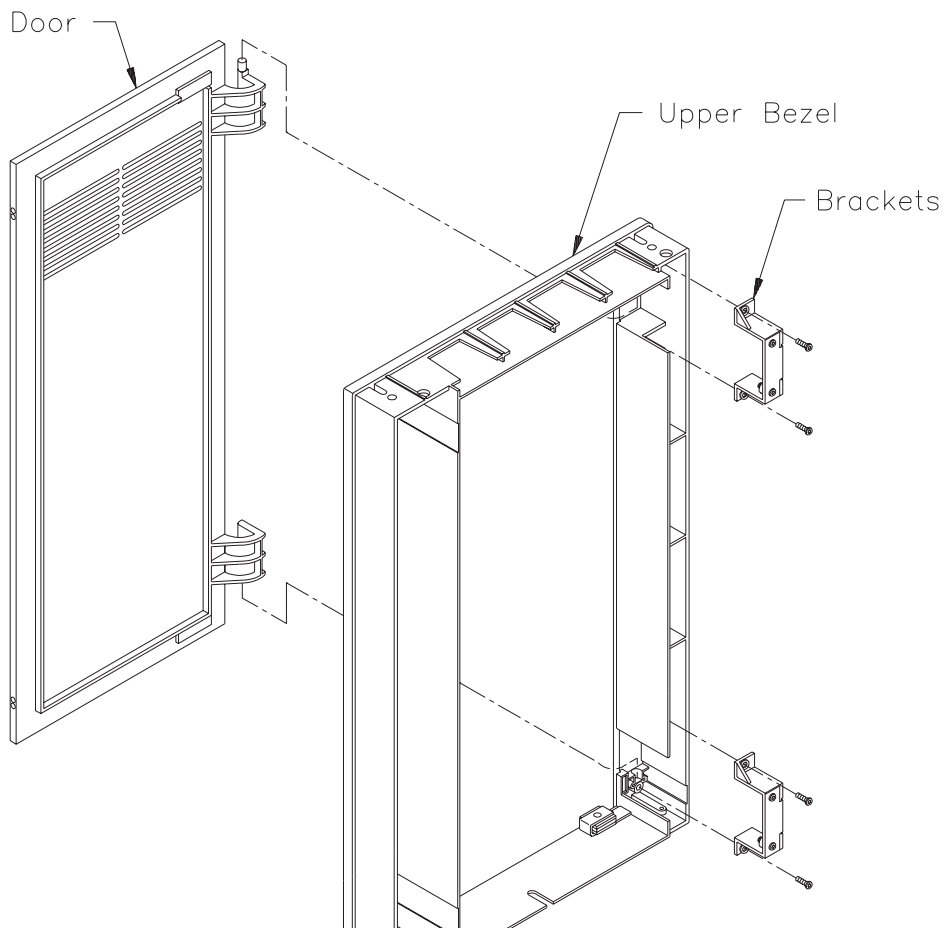

Figure 9-2 Front door (removed from the upper bezel)
4. Locate the four screws that hold the door in place on the upper bezel, as shown in Figure 9-2. Two screws are located deep inside the top of the upper bezel where the door hinges and the other two screws are located on the bottom of the bezel. These screws hold on the door and two brackets.